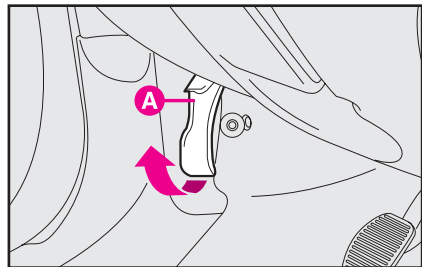

fig. 133
1) Pull the yellow lever **A**-fig. 133 in the direction of the arrow.